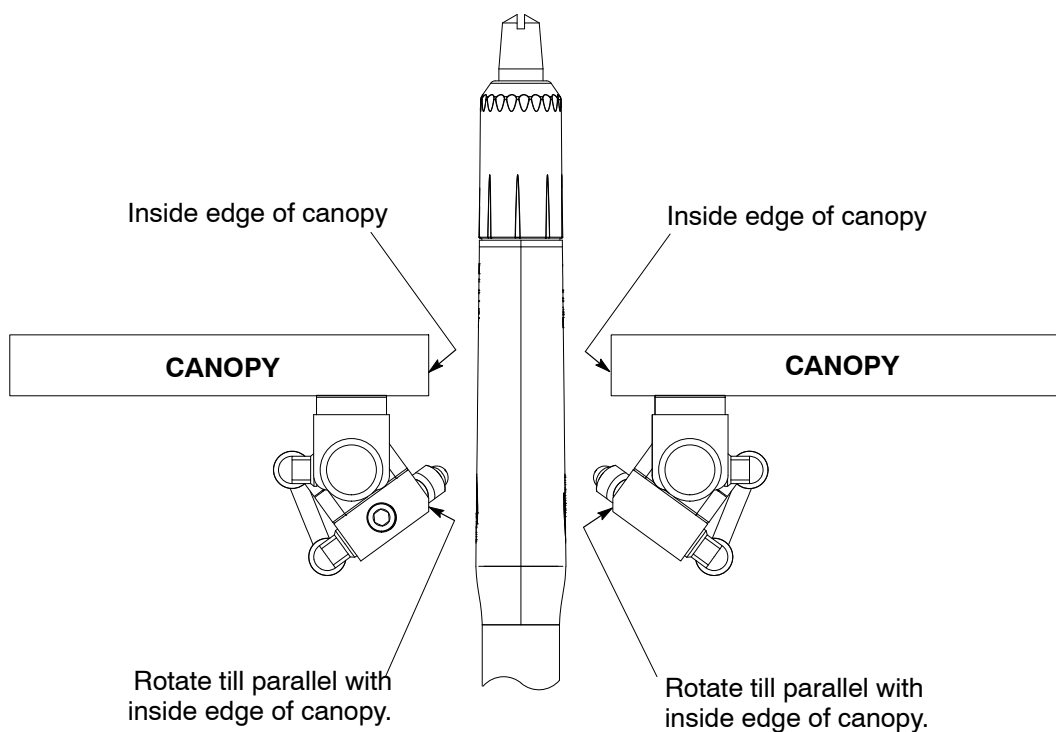

Figure 6 Align Manifold to Canopy Gun Slot Edge
2. Rotate the manifold so that the manifold's chamfered edge is parallel with the inner edge of the canopy gun slot shown in Figure 6. Tighten the M6 clamps screws to secure the manifold in place.